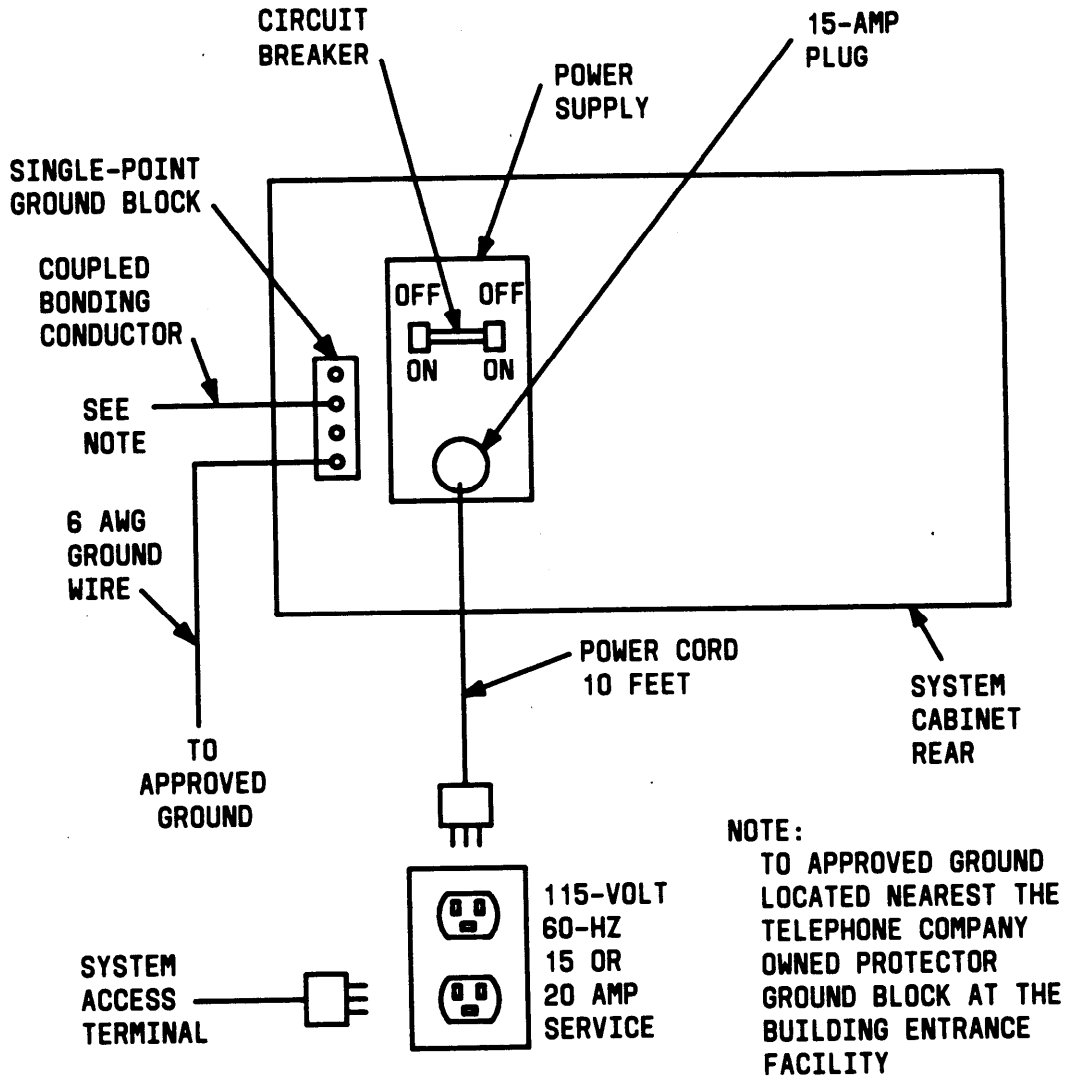

Figure 35. Typical Power and Grounding Layout
2. At the rear of each cabinet on the back of the power supply, set the circuit breaker to OFF (see Figure 35).
3. Unplug ac power cord from the receptacle for each on-line cabinet. (See Figures 35 and 36.)
Each cabinet contains its own power supply, and an ac power cable must be connected to each cabinet. The customer-provided ac receptacle options are shown in Figures 35 and 36.
2. Connect the ac power cable from each cabinet to power receptacles (see Figures 35 and 36).
1. At the rear of each cabinet on the back of the power supply, set the circuit breaker to ON (see Figure 35).